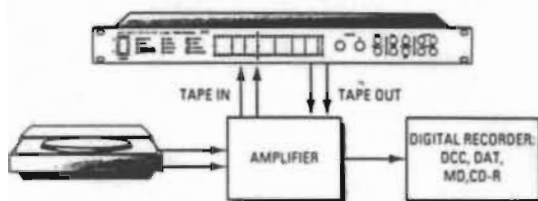

Figure 1.2: Typical application of Sound Enhancer.
- reducing the audibility of defects caused by scratches on gramophone records (de-clicking) or removal of other "sharp" defects (see figure 1.2)